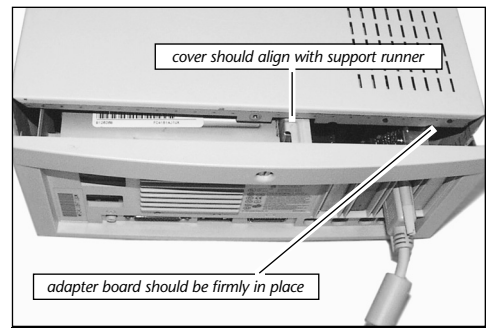

Figure 25: Verify cover aligns with support runner
23. Make certain the cover lines up with the support runner of the computer's case (**Figure 25**). The video adapter board should be firmly in place and not misaligned with the access port slot. If the video adapter board appears "tweaked" you will need to carefully realign the case back onto the computer.